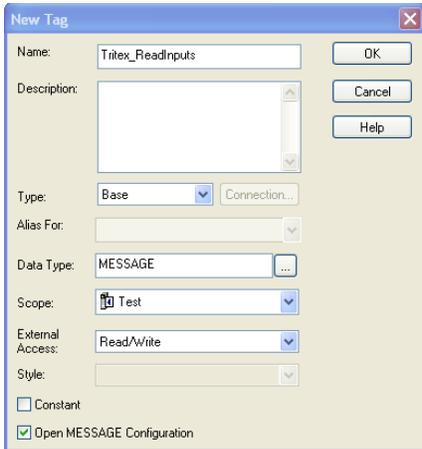

Figure 24 – Get Message New Tag
- In new Tag menu, assign name to tag, Check **Open MESSAGE Configuration** box, then click **OK**. See Figure 24.